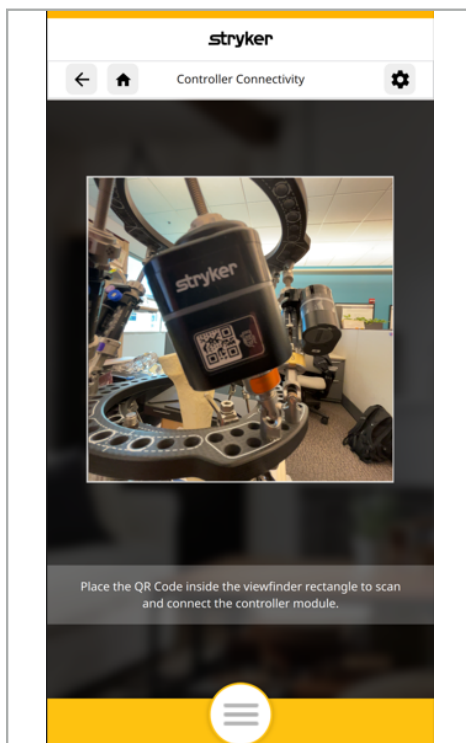

Figure 25
- Aim the camera at the QR code on the front of the strut controller. **(Figure 25)**